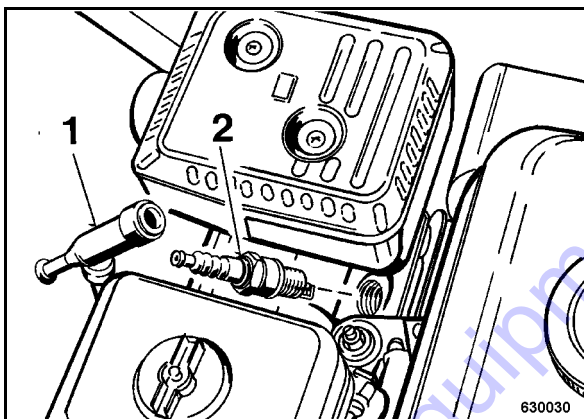

Fig. 53
- Pull off the spark plug socket (1) (Fig. 53) and unscrew the spark plug (2).